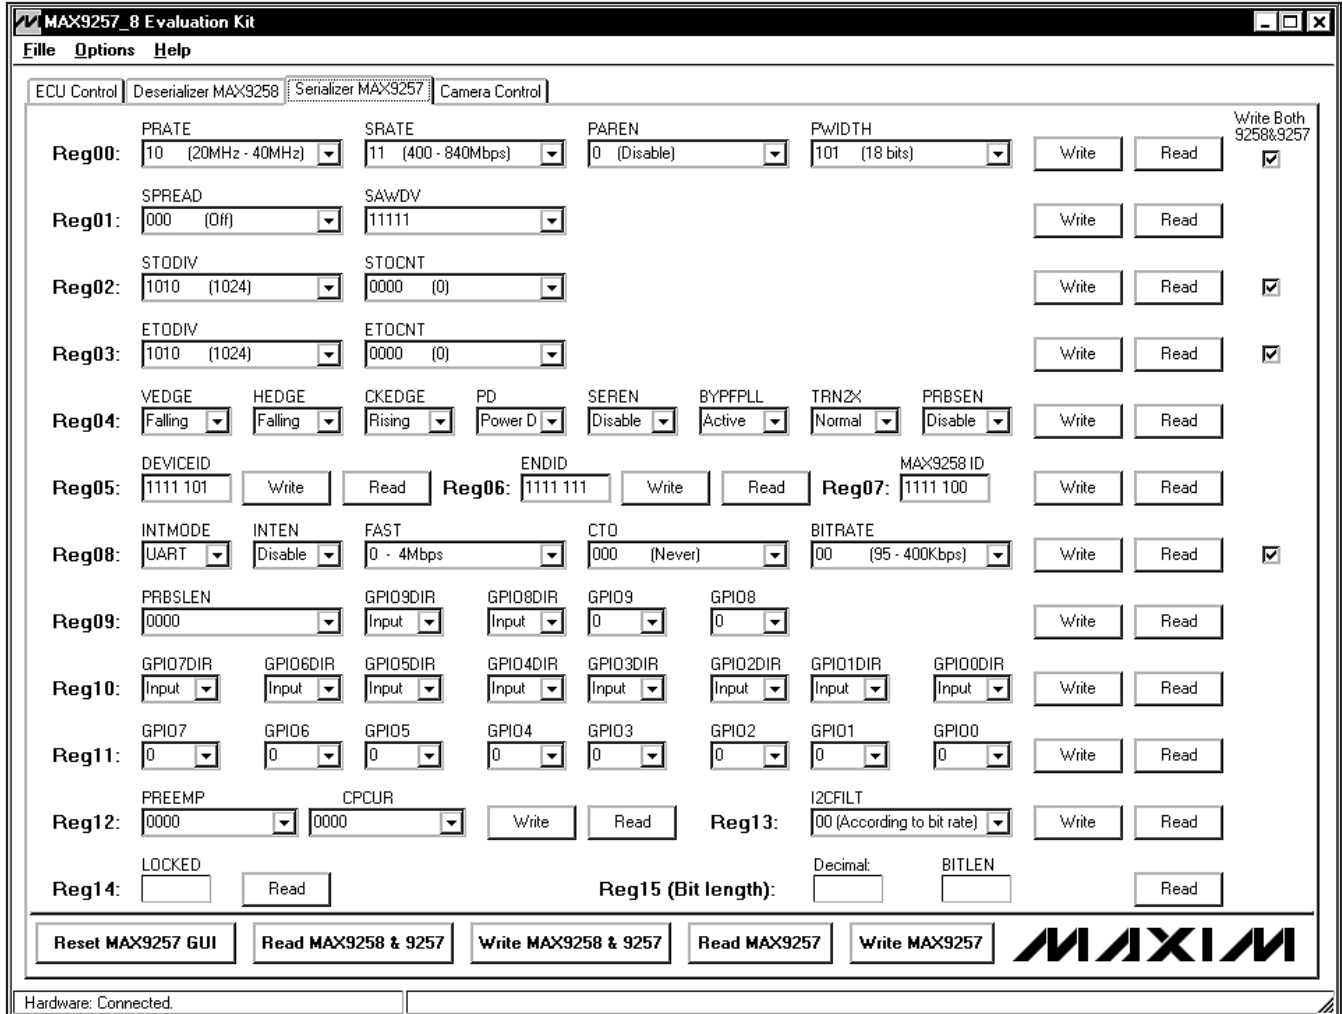

Figure 5. MAX9257/MAX9258 Evaluation Kit Software—Serializer MAX9257 Tab
- 21) Click on the **Serializer MAX9257** tab to move to the **Serializer MAX9257** tab sheet (Figure 5).
On the **Serializer MAX9257** tab sheet (Figure 5), the ECU can write or read all registers on the MAX9257 by pressing the **Write** or **Read** buttons on the right of each register. Refer to the MAX9257/MAX9258 IC data sheet for the definition of each register.
- 7) Navigate to the **Serializer MAX9257** tab sheet (Figure 5). Select **Enable** in the **SEREN** drop-down list within the **Reg04** controls if it is not enabled.
- 8) Navigate to the **Serializer MAX9257** tab sheet (Figure 5). Select enable in the **SEREN** drop-down list within the **Reg04** controls if it is not enabled.